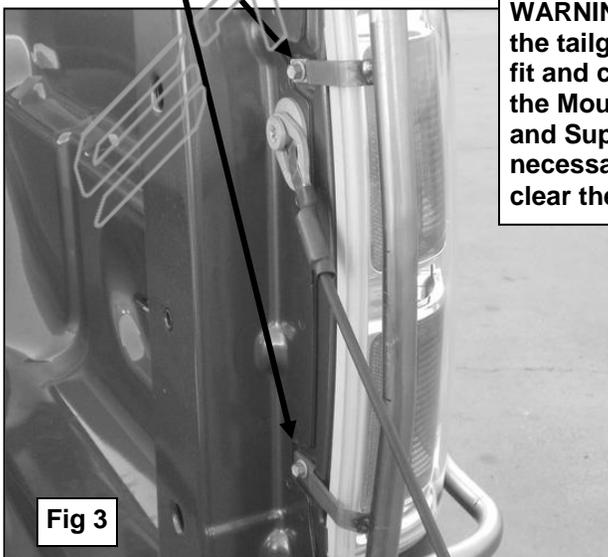

Fig 3
- 6.** Secure the Taillight Guard to the vehicle using the two factory hex bolts removed in Step 3, **(Figure 3)**. Do not tighten at this time.